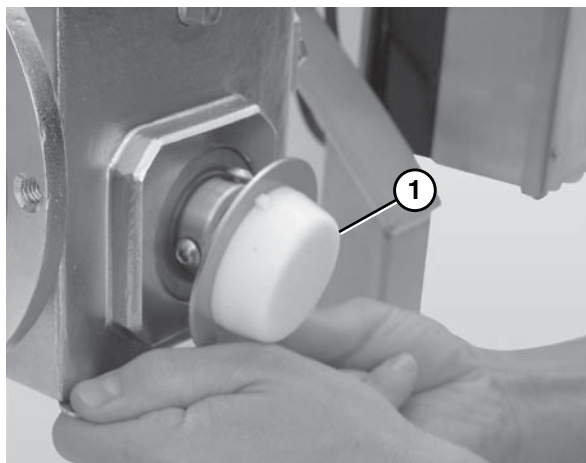

Figure 12
7. Attach the drive spindle cover (Figure 12, item 1).